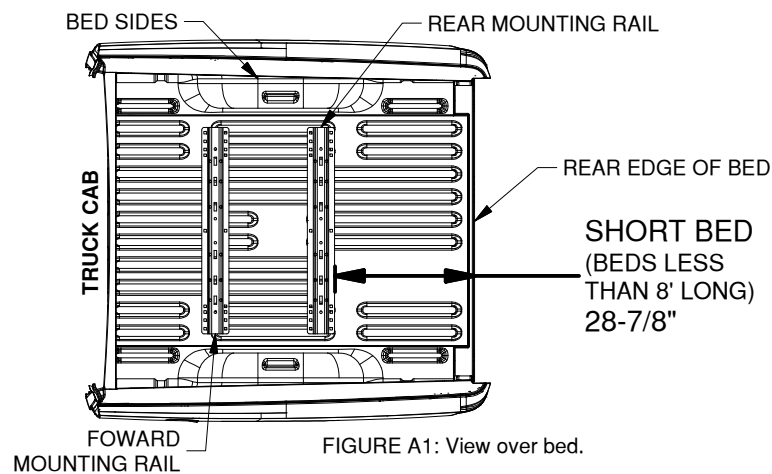

FIGURE A1: View over bed.
1. **Layout the rear mounting rail.** Place a mounting rail onto the bed of the truck. Hook a tape measure over the rear edge of the bed (not on any part of the tailgate), measure the location for the mounting rail as shown in Figure A1. Next, center the mounting rail in the bed by measuring the distance on either side from the edge of the rail to the sides of the bed. The rail will be centered when both measurements on either side of the rail are the same.